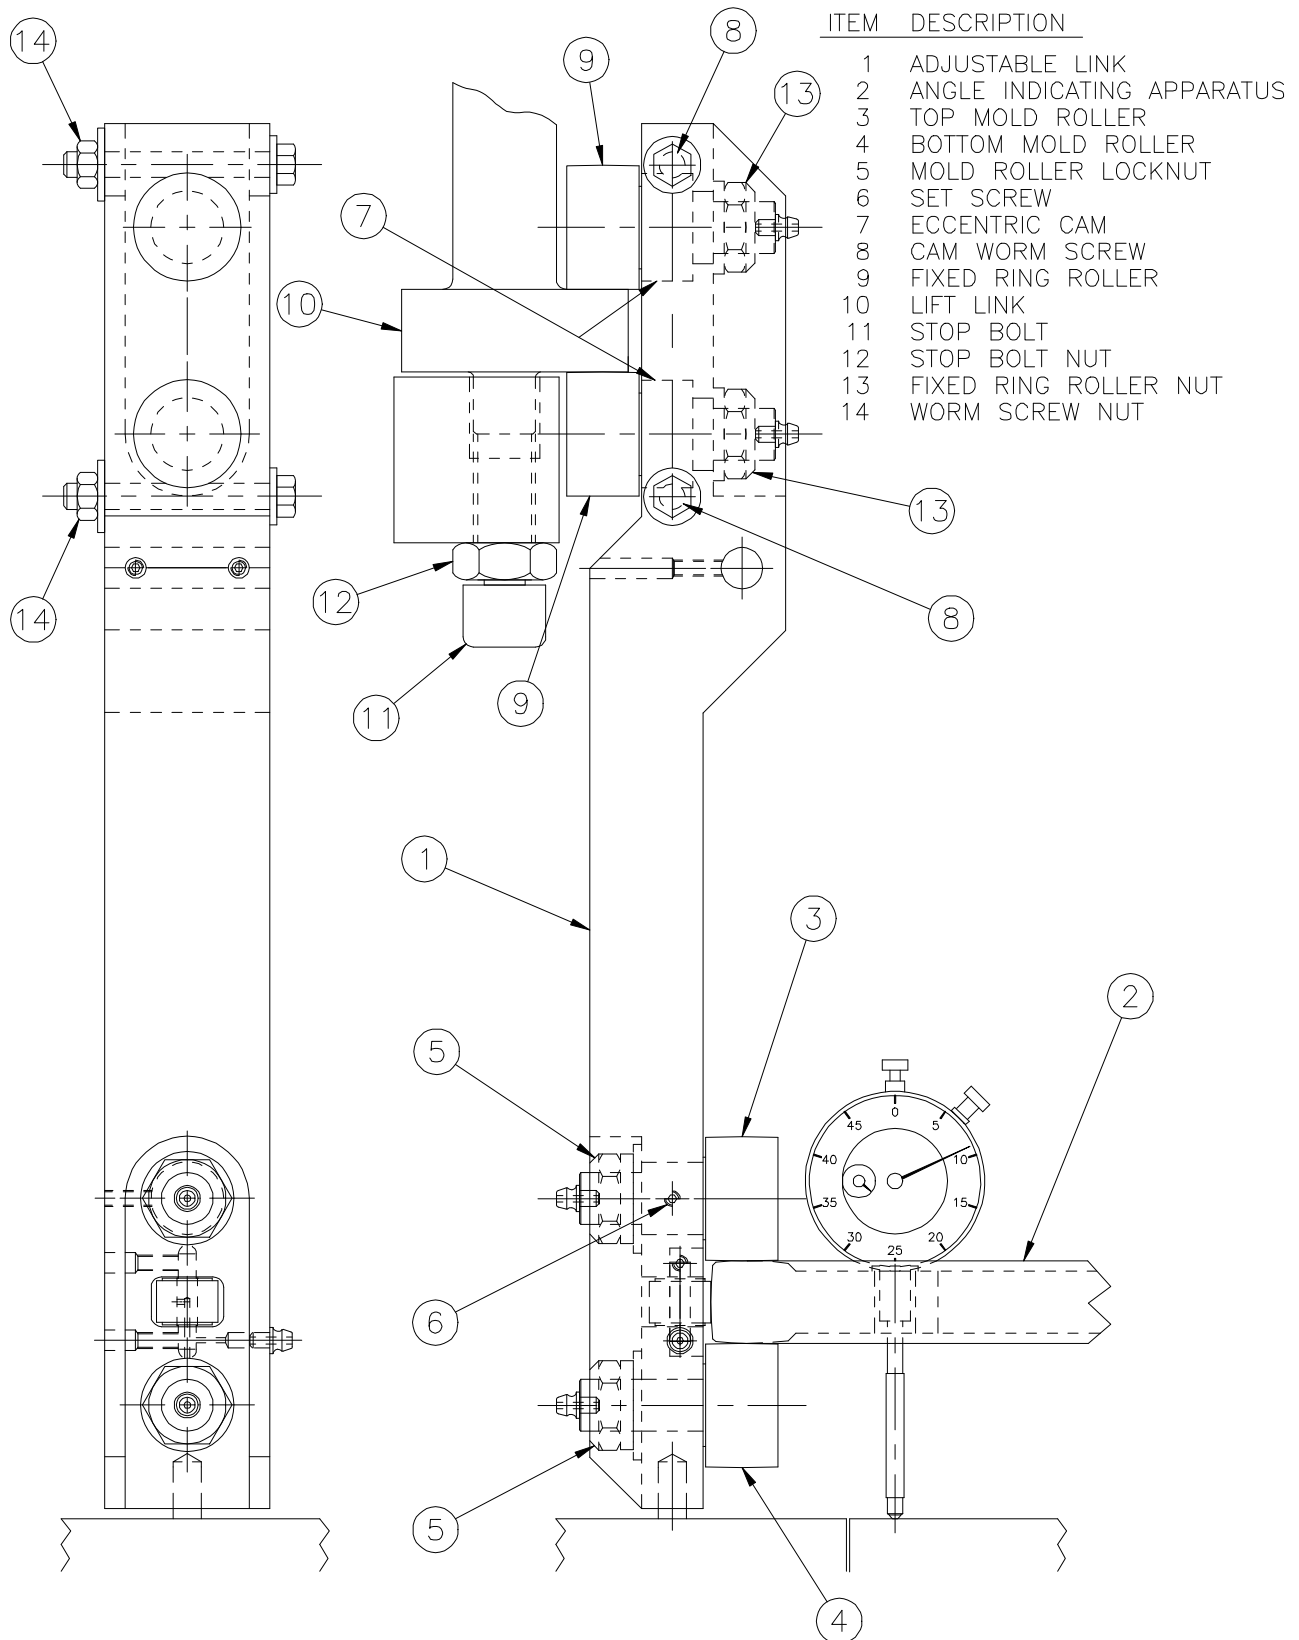

FIGURE 3.2: ADJUSTABLE LINK
The angle of gyration is adjusted by changing the effective length of the mold carriage adjustable link (Fig.3.2, item 1, Chapter III - page 17). An eccentric worm driven cam (Fig.3.2, item 7), which is incorporated into the adjustable link, is used to accurately adjust the position of the fixed ring rollers. The worm screw (Fig.3.2, item 8) meshes with teeth on the eccentric cam so that rotating the worm screw causes the eccentric cam to rotate. Due to the eccentricity between the cam inside and outside diameters, rotating the cam changes the distance between the fixed ring rollers (Fig.3.2, item 9) and the mold rollers (Fig.3.2, items 3 & 4) mounted on the adjustable link. This adjustment changes the angle of gyration induced onto the specimen by the frame mounted fixed ring (Fig.3.4, item 6, Chapter III - page 19). The zero degree stop bolt (Fig.3.2, item 11) must be reset when the gyration angle is changed. The zero degree position adjustment procedure is found in section 6.2, Chapter III - page 10.
Note: Items 1 thru 4 pertain to each fixed ring roller. Item 1 shows where the fixed ring roller nuts (hidden in this view) are located. (Reference Items 9 (roller) and 13 (roller nut) , Figure 3.2)
Note: To loosen the fixed ring rollers (Figure 3.2, item 9, Chapter III - page 18) for adjustment, use a hex wrench to turn the roller while holding the roller nut with the ratchet and socket. These tools are supplied in the tool kit.